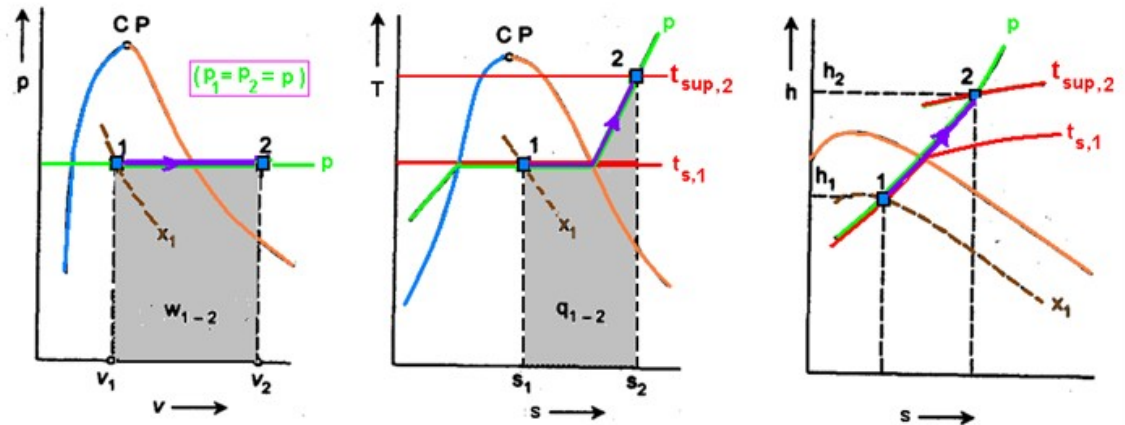

Fig. 22.1. Constant pressure heating process of steam
- (a) **p-v, T-s, and h-s Representation.** Assume that steam undergoes a constant pressure heating process from its initial state to final state. Let the initial condition of steam be in the wet region as point 1 at pressure  $p_1$  having dryness fraction  $x_1$  and the final condition in the superheat region as point 2 at pressure  $p_2 (= p_1)$  and super heating temperature  $t_{sup,2}$  as shown in Fig. 22.1 on p-v, T-s and h-s diagrams.